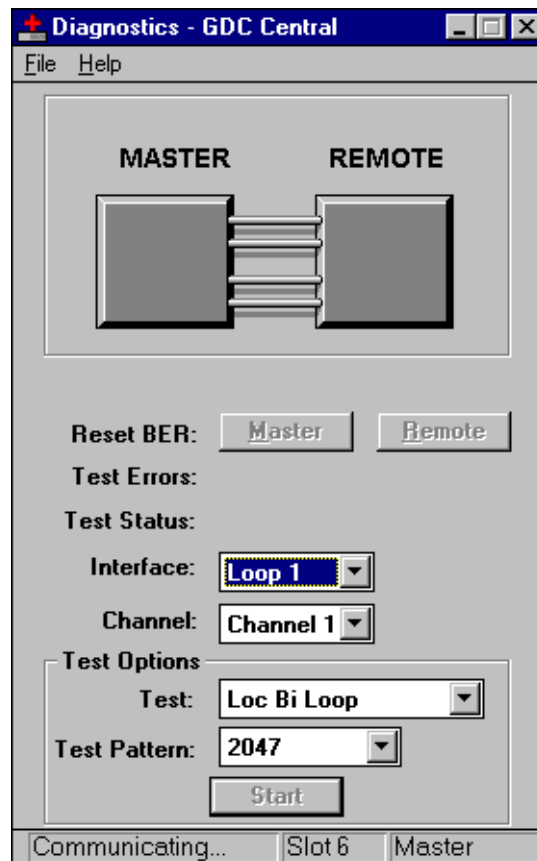

Figure 6-3 Diagnostics Window
- Reset Statistics - resets all statistics to zero for DC610, DC612, DC621, SC611, and SC616. For SC613, statistics are reset on a per-loop basis, using the window in *Figure 6-3*.
See *Figure 6-3*, below.